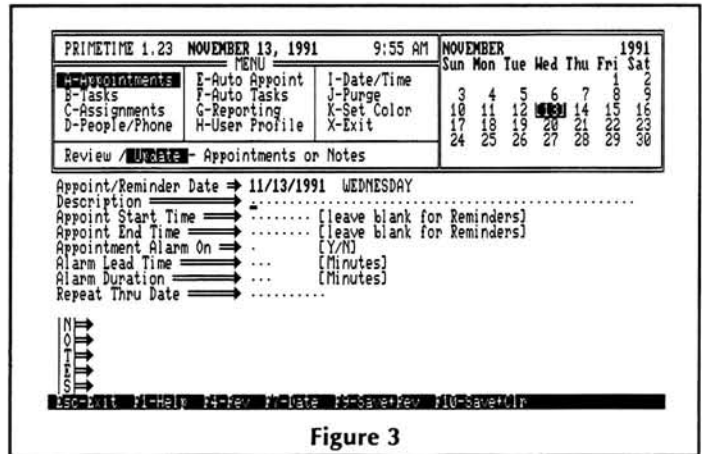

Figure 3
1. Press the down arrow key to highlight 3 P.M., then press the F2 function key to display the update appointment form (Figure 3). The day's date is already in the form.